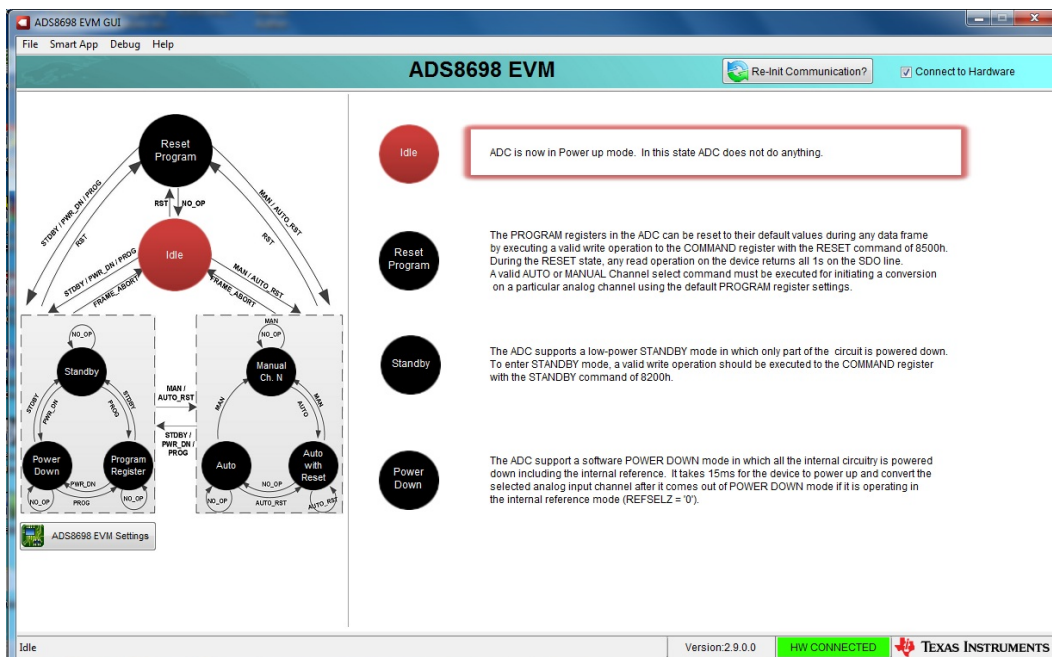

Figure 16. Start Page of the ADS86xxEVM GUI
- Step 3. Verify that the software detects the ADS86xxEVM. The GUI identifies the device on the EVM that is connected to the controller and loads the settings. After the settings are loaded, the GUI displays the device name followed by EVM on the top of the GUI window, as shown in Figure 16.